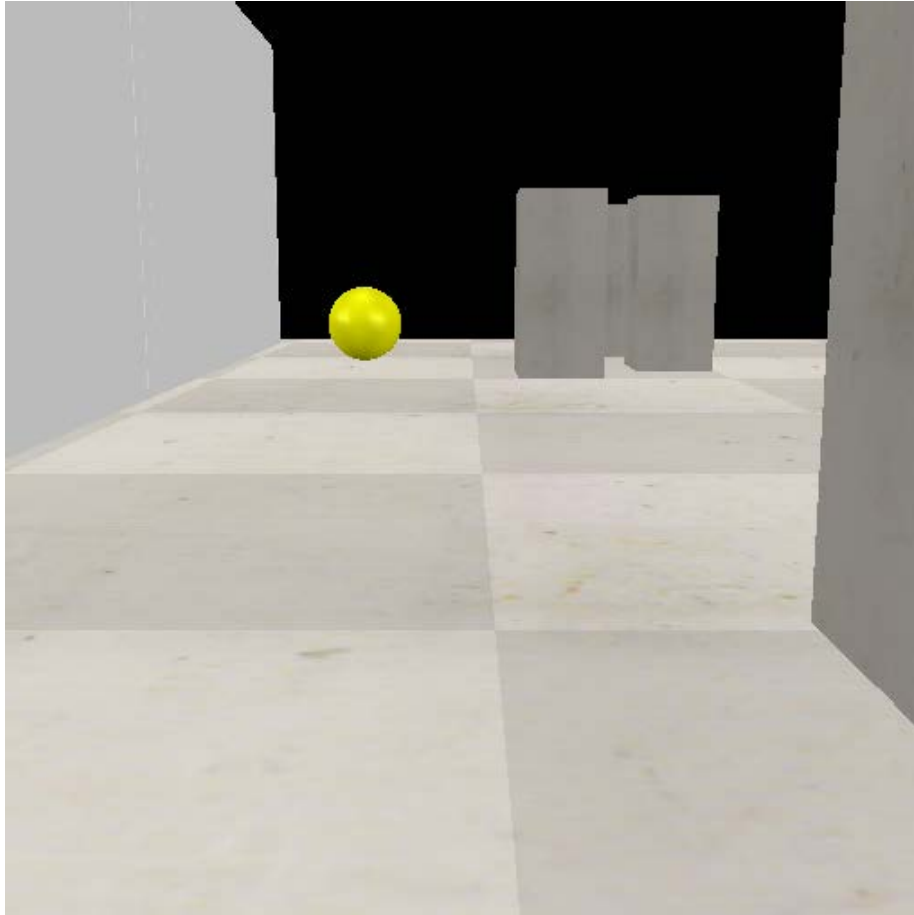

Figure 6: Yellow ball to follow
- 4 Visual Servoing. There is a slowly moving yellow (rgb:255,255,0) ball (Fig. 6) in the environment and you have to write program (roscnode, in c/c++ or python) to control the mobile robot to follow the ball. 20%